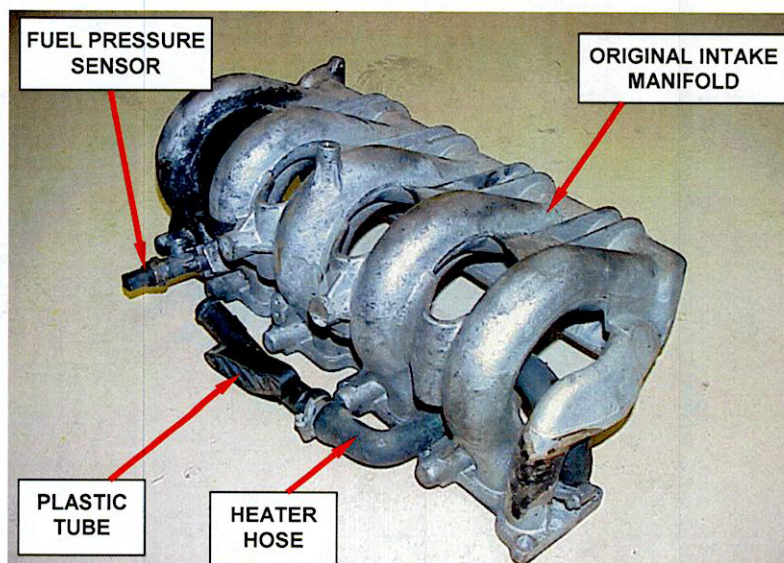

Figure 12 – Transfer Components
8. Transfer the fuel pressure sensor to the new intake manifold (Figure 12).
9. Transfer the heater hose and plastic tube to the new intake manifold (Figure 12).
18. Connect the fuel tube to the fuel pressure sensor located on the bottom side of the intake manifold (Figure 12).